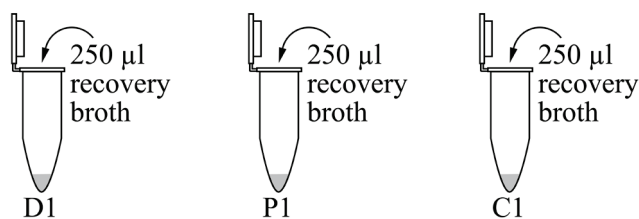
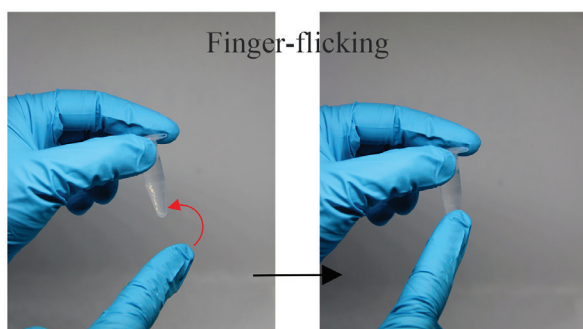
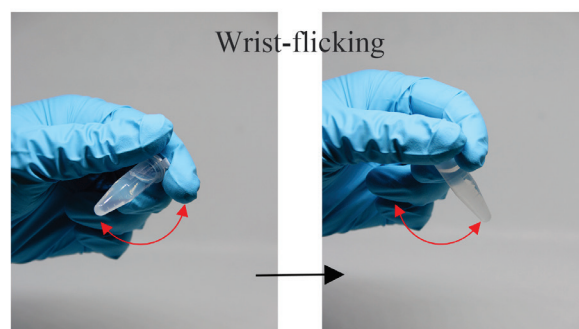

Fig. 19
Fig. 20
Fig. 21
21. Using the P1000 micropipette and sterile tips, add 250 μ l recovery broth to each of the micro-centrifuge tubes (Fig. 19). Gently finger-flick (Fig. 20) or wrist-flick (Fig. 21) the tubes.